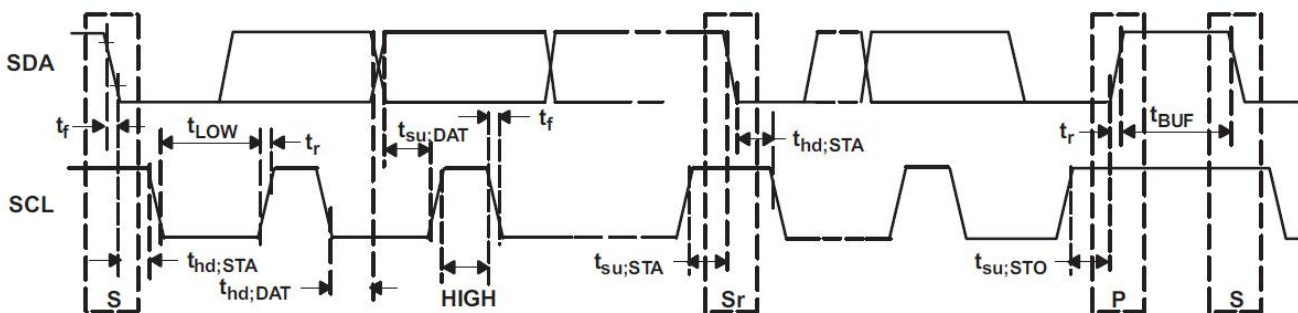

Figure 4, Serial Interface Timing for F/S-Mode I2C
**I2C Compatible Timing Specifications (SCL, SDA), see Figure 4**